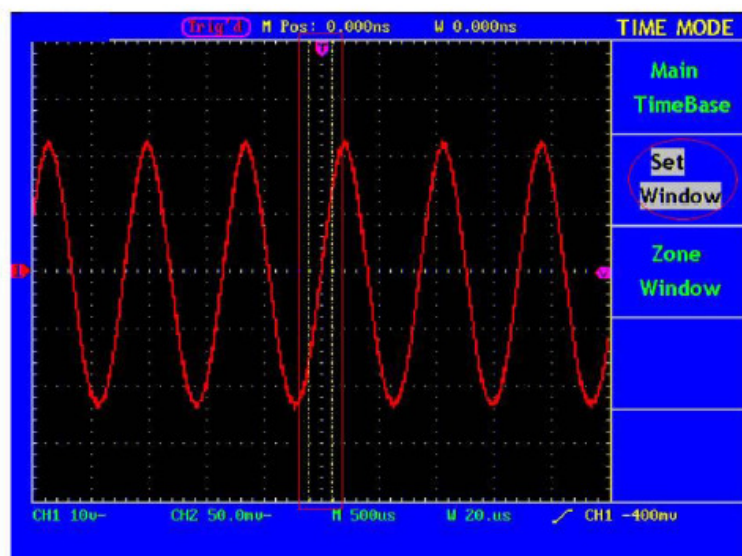

Fig. 34 Window Setting
Press the **F2** menu selection button and choose **Set Window**. The screen will show a window area defined by two cursors. In this case, the **HORIZONTAL POSITION** and **SEC/DIV** knobs can be used to adjust the horizontal position and size of this window area (see Fig. 30(a)). Press **F2** menu button under the FFT mode, it will notice "FFT mode disable". See Fig.34.
5. Press "F4" to choose slope as "Rising". Display as Fig.34